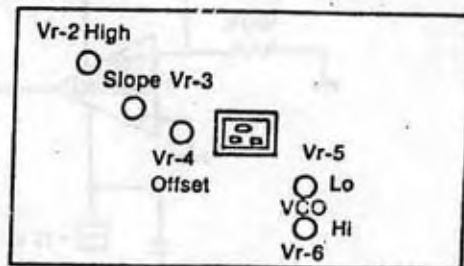

Fig. 2 Rear Panel
- Slope Adjustment Ref. FIG. 2